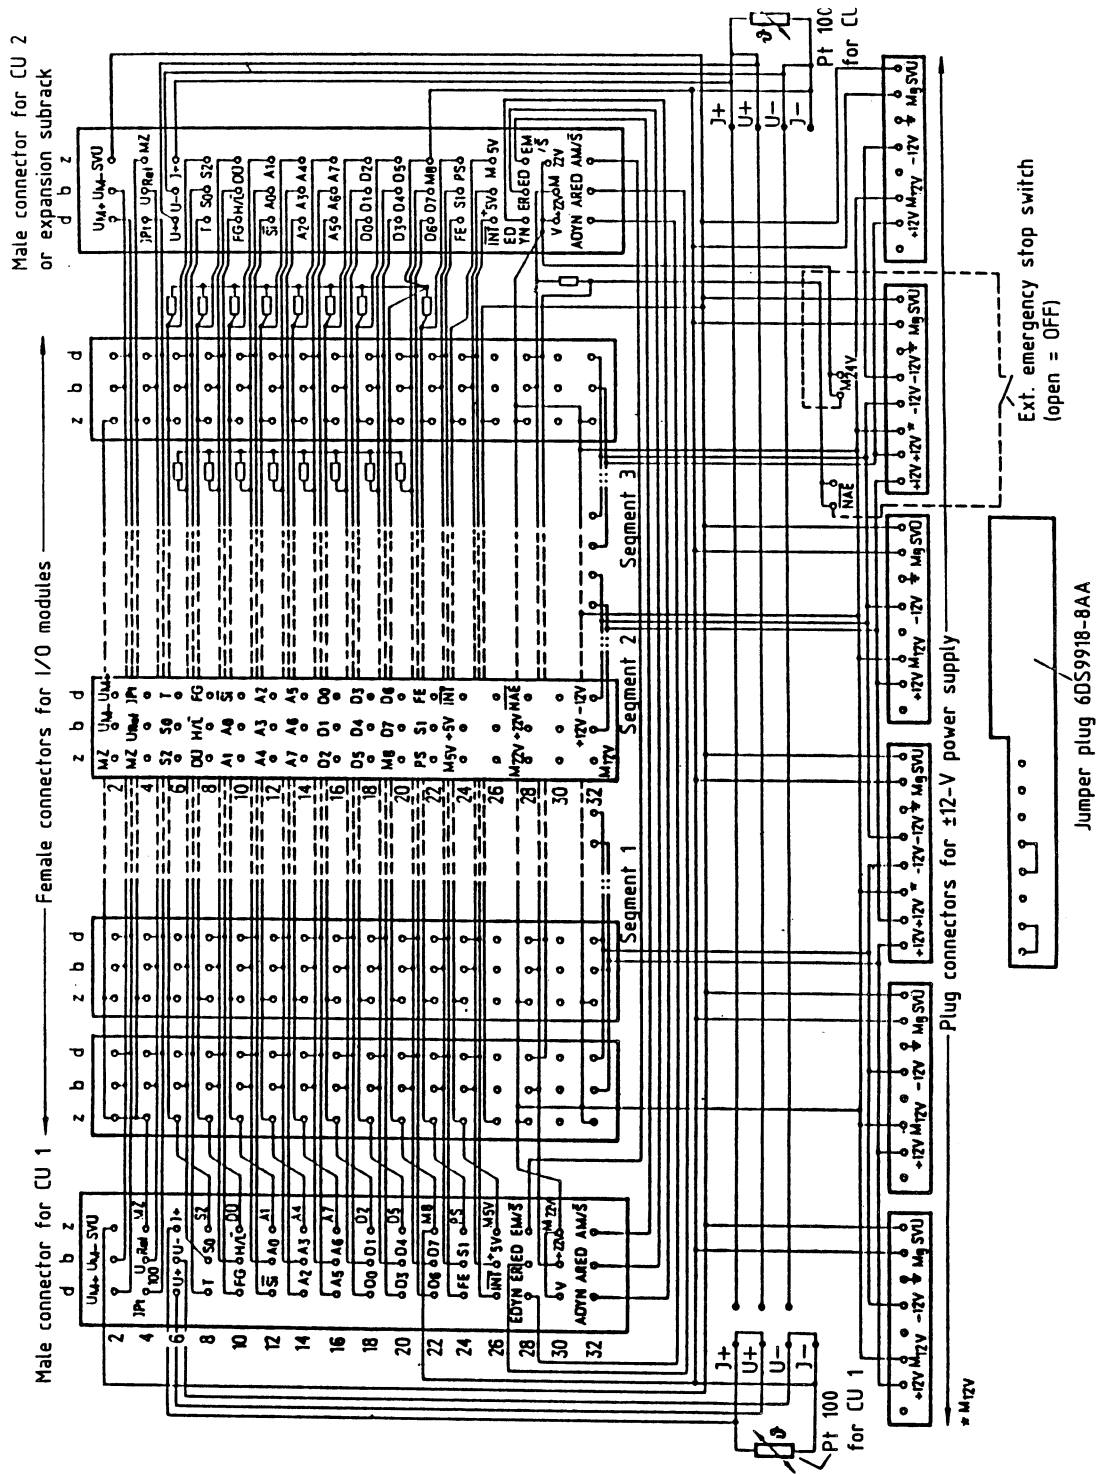

Fig. 27 Wiring of the basic module C79451-A3224-B50
3.1.2 I/O Subrack (see Fig. 27)